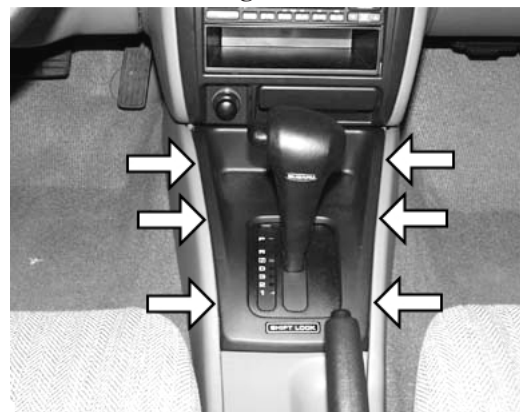

Figure 3
4. Remove the gearshift cover by pulling up in areas indicated by the arrows in Figure 3.